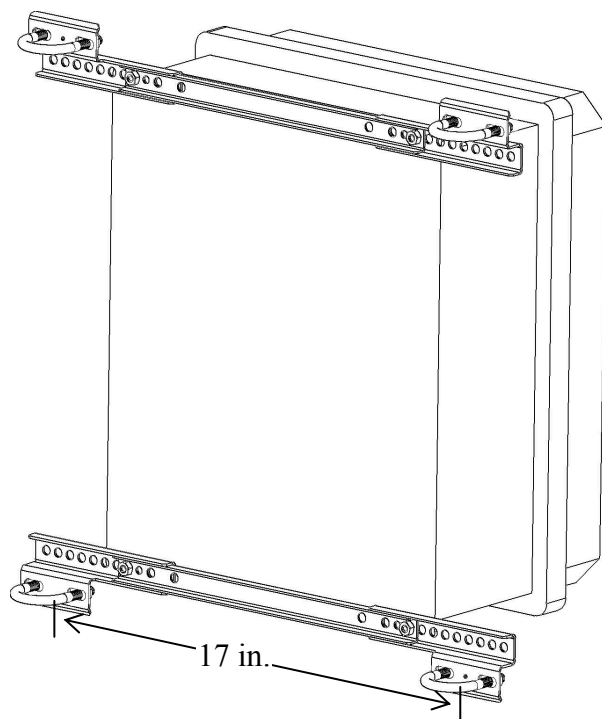
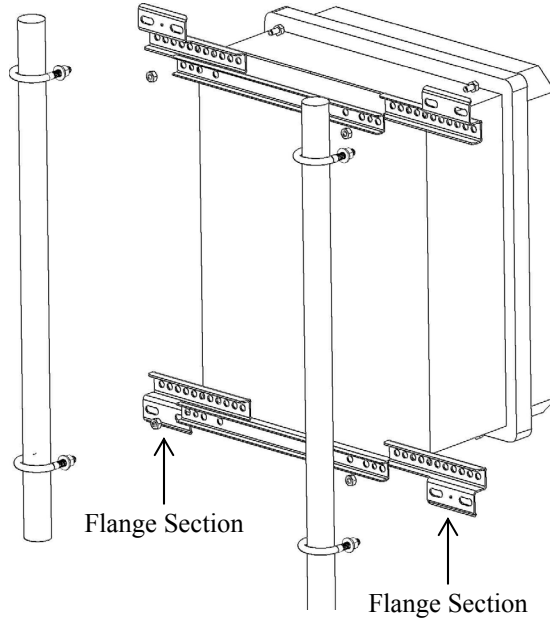
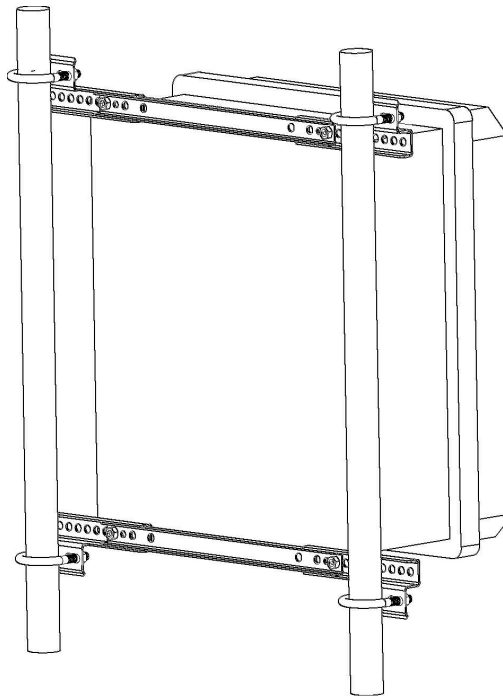

FIGURE 4-4. Enclosure brackets configured for a tower mount
FIGURE 4-5. This exploded view shows the components of a "-TM" bracket option
FIGURE 4-6. An enclosure attached to two tower legs
The “-TM” option is used to attach our enclosures to a UT10 tower. An enclosure ordered with the “-TM” option will be shipped with a three-piece bracket mounted to the top of the enclosure and an identical three-piece bracket mounted to the bottom of the enclosure. This mounting bracket option uses the same three-piece brackets as the “-MM” option, except the pieces are rearranged so that the flanges are on the side of the bracket instead of in the middle. The distance between the centers of each flange needs to be 10.25” (see FIGURE 4-4, FIGURE 4-5, and FIGURE 4-6).
same three-piece brackets as the “-MM” option, except the pieces are rearranged so that the flanges are on the side of the bracket instead of in the middle. The distance between the centers of each flange needs to be 17” (see FIGURE 4-4, FIGURE 4-5, and FIGURE 4-6).
2. Slide out the flange sections so that the distance between the centers of each flange is 17” (see FIGURE 4-4).